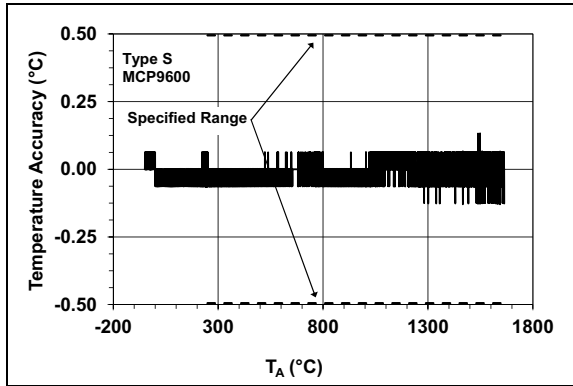

FIGURE 2-7: Typical Temperature Accuracy from NIST ITS-90 Database, Type S.
- 3** The device measures temperature below the specified range, however, the sensitivity to changes in temperature reduces exponentially. Type R and S measure down to $-50^{\circ}C$, or -0.226 mV_{EMF} and -0.235 mV_{EMF} , respectively. Type B measures down to $500^{\circ}C$ or 1.242 mV_{EMF} (see Figures 2-7, 2-8, 2-10, 2-11, 2-14 and 2-17).